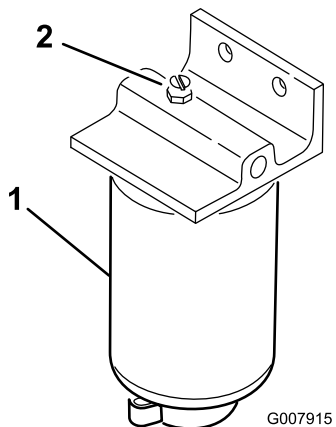

Figure 28
4. Open the vent plug on the fuel filter/water separator (Figure 28).